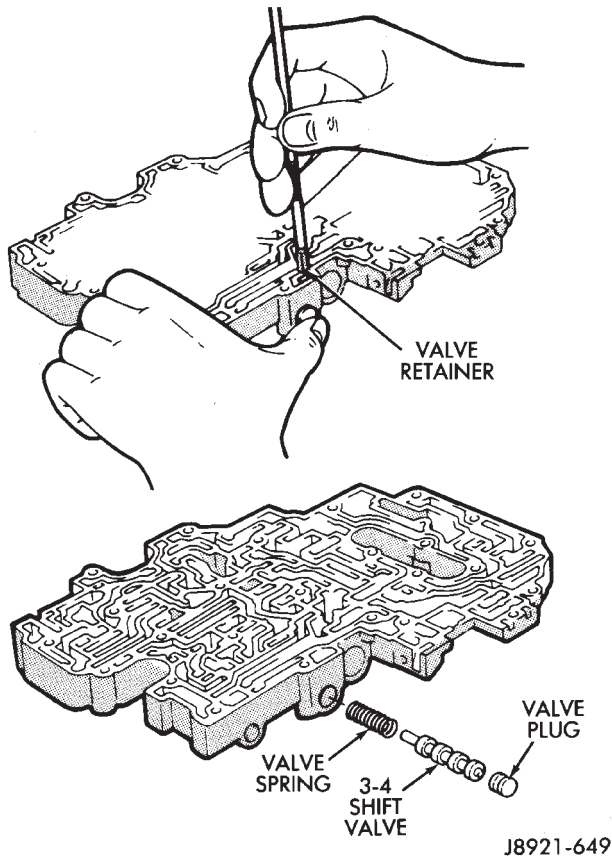
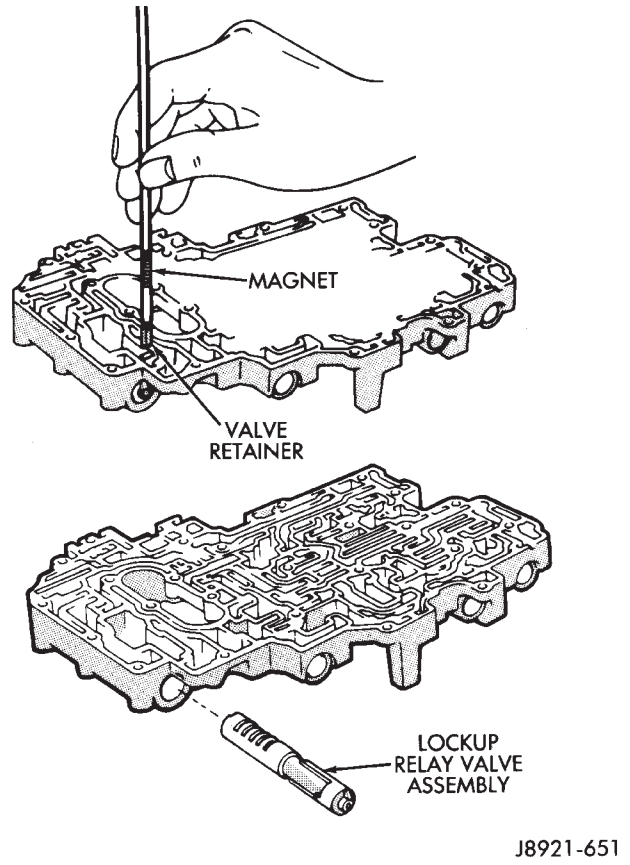

Fig. 6 Removing/Installing 3-4 Shift Valve
Fig. 8 Removing/Installing Converter Clutch Relay Valve
(6) Remove 3-4 shift valve retainer with magnet and remove valve plug, spring and 3-4 shift valve (Fig. 6).
(7) Remove second coast modulator valve retainer and remove valve plug, spring and valve.
(8) Remove lock-up relay valve retainer and remove relay valve and sleeve assembly (Fig. 8).
(8) Install assembled lock-up relay valve in valve bore and install retainer (Fig. 8).
(10) Install 3-4 shift valve, spring and plug in bore. Press plug inward and install retainer (Fig. 6).